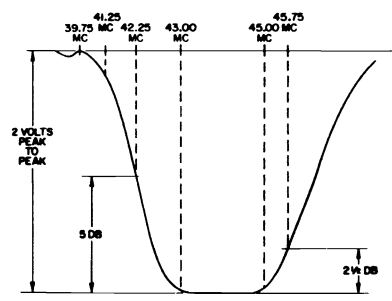

Figure 14 - Typical IF response, 1st IF Amp grid to 2nd Det.
| 4. | Sweep generator at 44.25 MC to TP (D). Couple CW marker generator to sweep generator cable. Keep marker amplitude at minimum to avoid distorting response. | T201, T202, T203: slight retouching may be necessary. See Figure 14 for typical response curve with correctly placed markers. If curve cannot be obtained, traps listed in step 5 may be badly mistuned. |